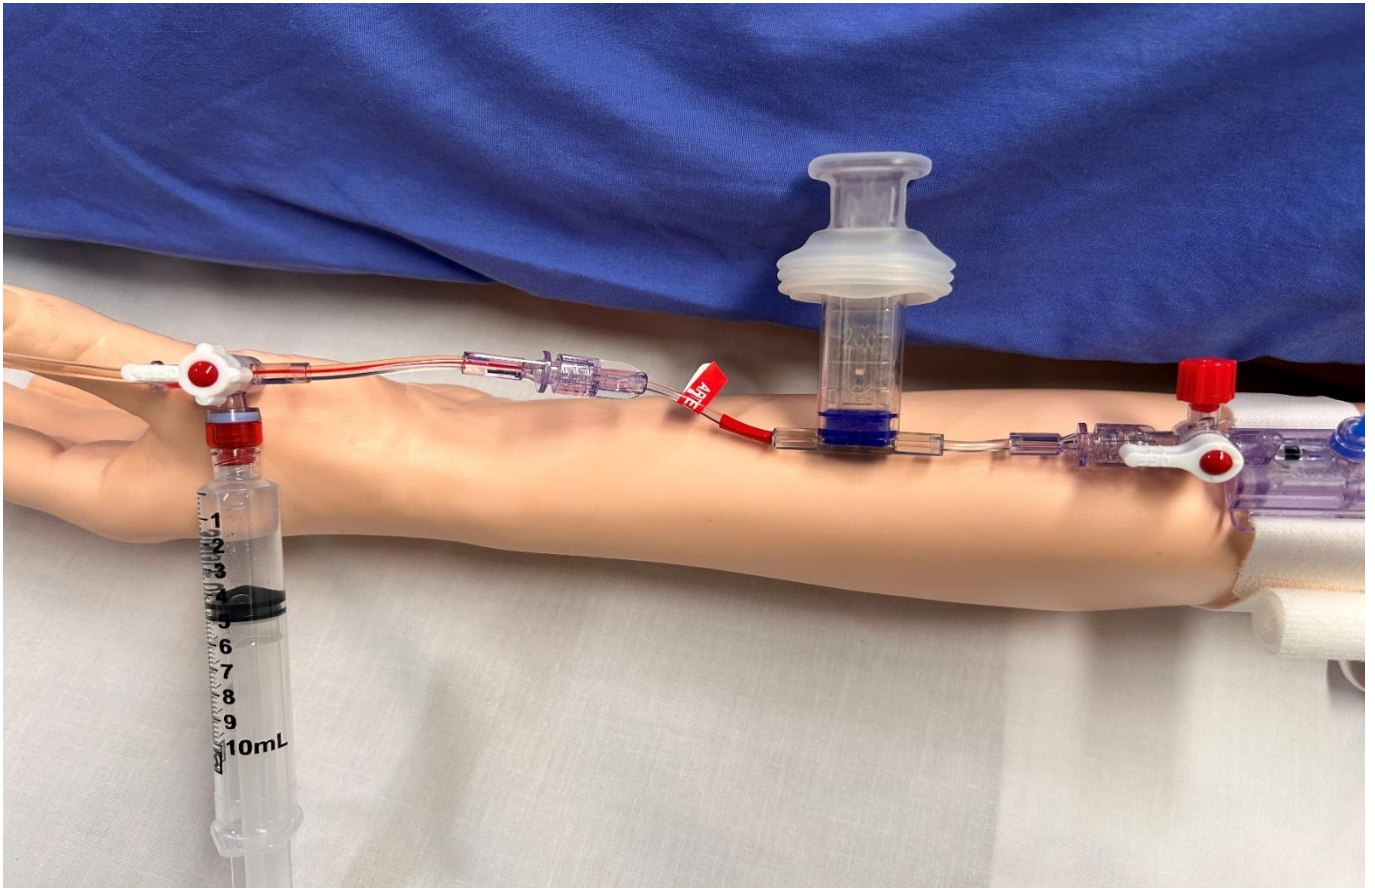

Figure 16.
- Then **use the plunger to flush the saline slowly using 'push- pause' technique to the attached 10ml syringe.** This process makes sure any leftover blood from the three-way port is cleared. (See figure 16 below).